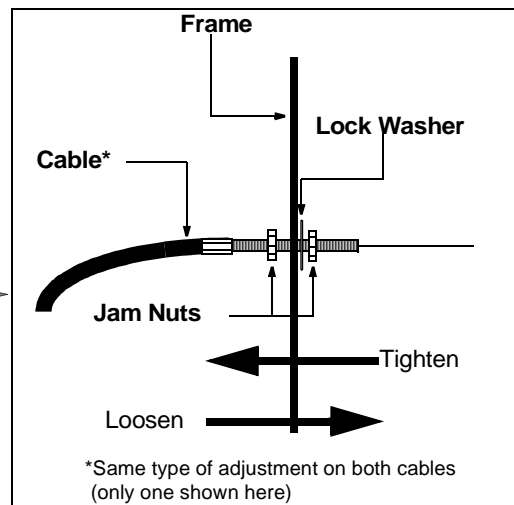

Figure 12
Adjustment to the brake pedal is made at the cable end. See Figure 12 .
- Locate the brake cable on the right side under the front housing. See Figure 12 .
- Using a pair of 1/2" wrenches, loosen the jam nuts and back the cable out to tighten or thread inward to loosen. See Figure 12 inset.
Adjustment to the "Go" Pedal is made at the cable end. See Figure 12 .
- Locate the speed control cable under the front housing. See Figure 12 .